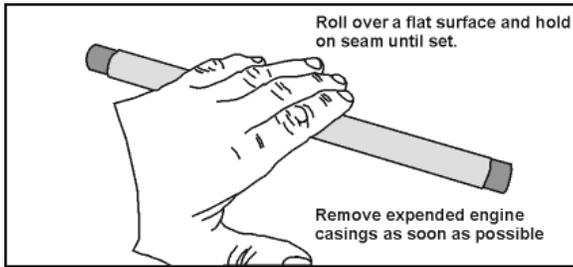

Figure 10
10. Carefully line up the edge of the Body Tube along the glue tab and press into place, on a smooth flat surface. Referring to **Figure 10**, roll the Body Tube on the flat surface until the seam is on the underside, held in place with your fingers and the engine